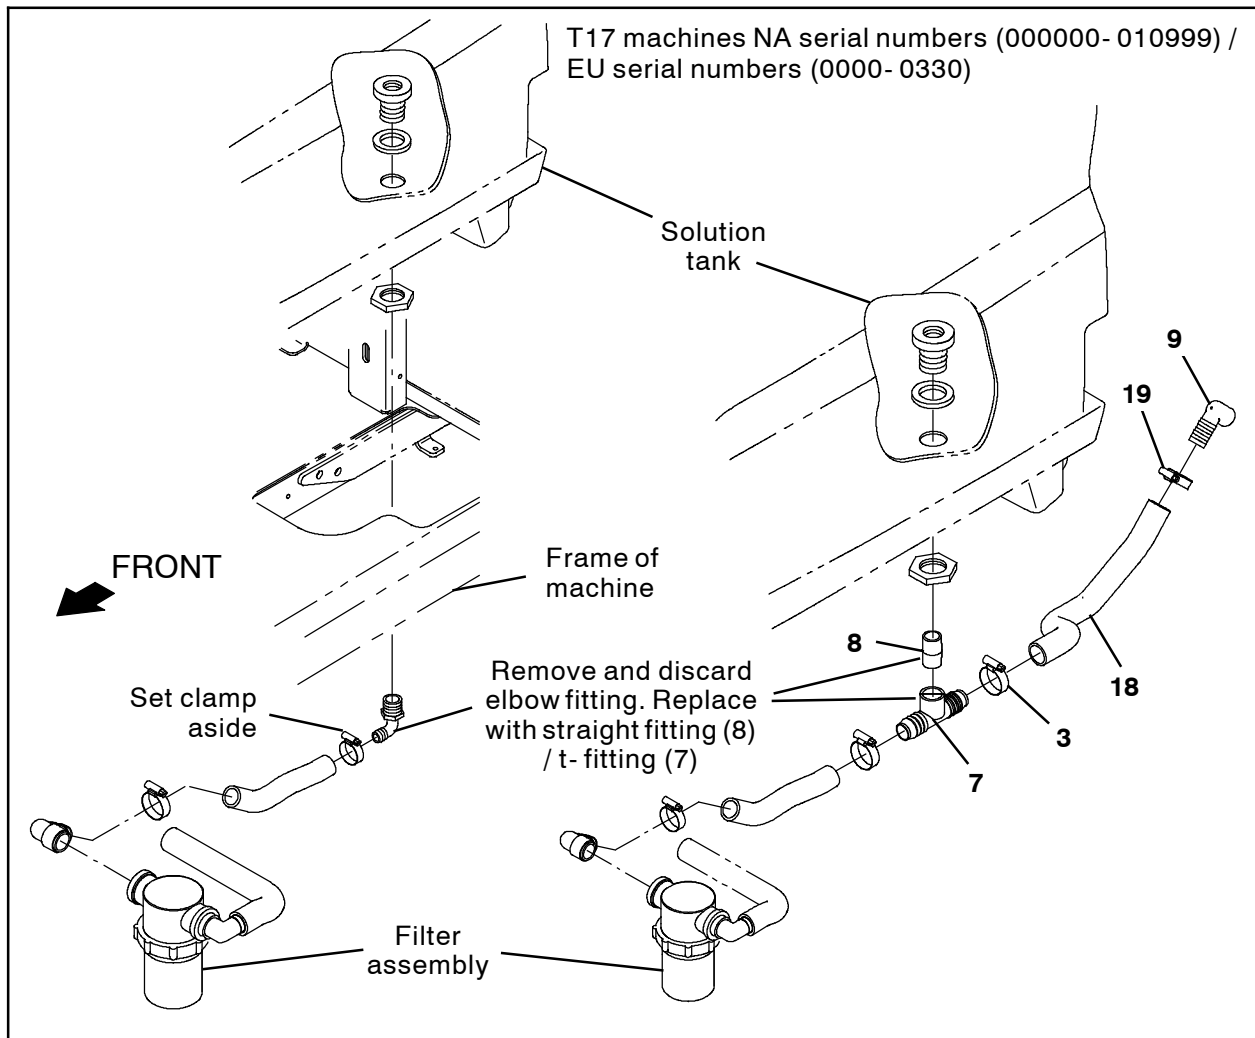

FIG. 2
12. Loosen the hose clamp securing the hose from the filter assembly to the elbow fitting installed on the bottom of the solution tank. (Fig. 2)
13. Thread the straight fitting (8) into the t-fitting (7). (Fig. 2)
14. Install the straight fitting (8) / t-fitting (7) into the solution tank. (Fig. 2)
15. Connect the hose from the filter assembly to the t-fitting (7). (Fig. 2)
16. Use a hose clamp (19) to connect the 24 in. (610 mm) PVC hose (18) to the t-fitting (7). (Fig. 2)
17. Use a hose clamp (19) to connect the elbow fitting (9) to the 24 in. (610 mm) PVC hose (18) connected to the t-fitting (7). (Fig. 2)